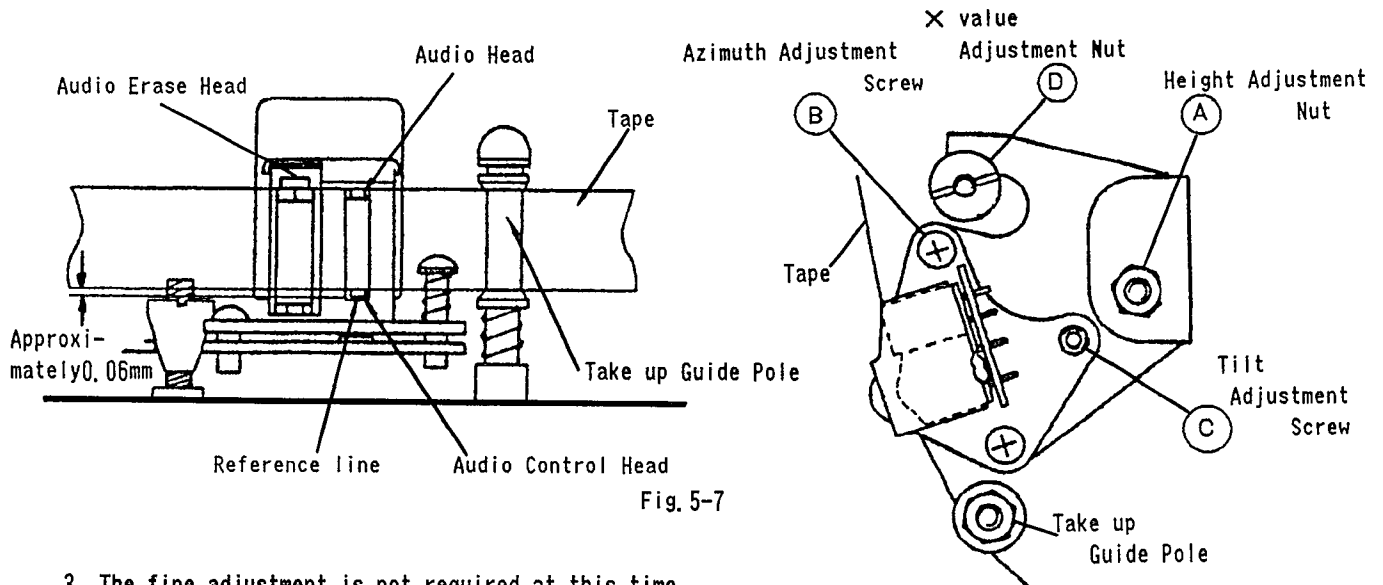

Fig. 5-7
2. Adjust the height of the edge of the audio track on the audio control head by using the height adjustment nut (A) and the tilt adjustment screw (C) so that the tape transport is smooth at the take-up guide pole. Align the audio control head height. (Refer to Fig. 5-7.)
2. Confirm that the tape running between the take-up guide roller and the audio control erase head has no slack. If the tape has slack, take it up by turning the tilt adjustment screw ©. (Refer to Fig. 5-7.) Then readjust GUIDE ROLLER HEIGHT in section 5-2 and the X value in section 5-4.